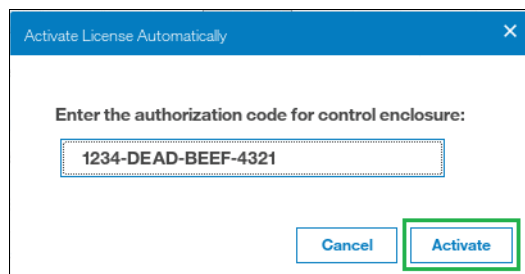

Figure 13-13 Entering an authorization code
2. Enter the authorization code that is specific to the node that you selected, as shown in Figure 13-13. You can now click **Activate**.